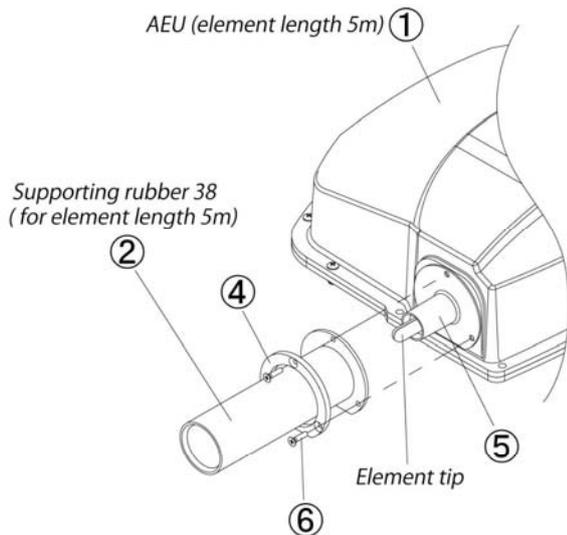
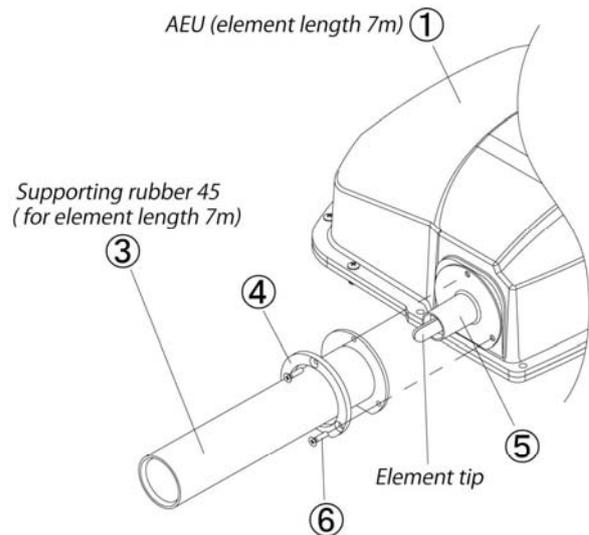

Figure 1-1
Figure 1-2
AEU is shipped from our factory without ②Supporting Rubber38 and ③Supporting Rubber45 as shown in Figure 1-1 and 1-2. AEU has only ④Rubber Holder. You need to remove ④Rubber Holder once, and to attach ② and ③Supporting Rubber38&45 before start testing.
Disassemble and reassemble AEU as shown in 「Diagram1、Figure1-1、Figure1-2」
- [Diagram1、Figure1-1、Figure1-2] shows parts for an unit of AEU. Number of AEU is different depend on models.